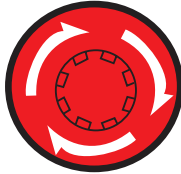

Figure 80. Emergency Stop Switch
1. Press the **Emergency Stop switch** (Figure 80).